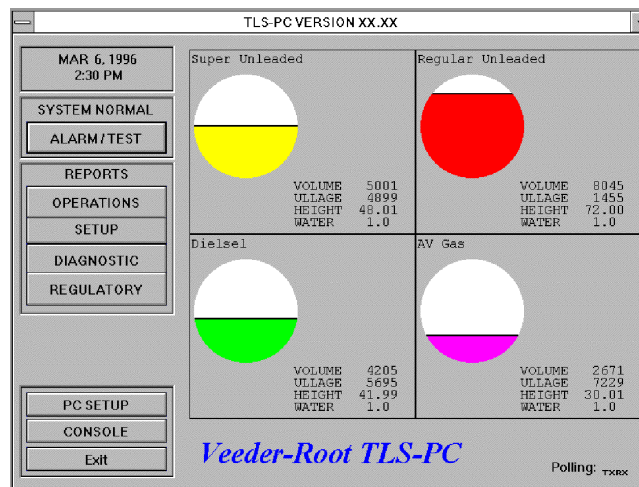
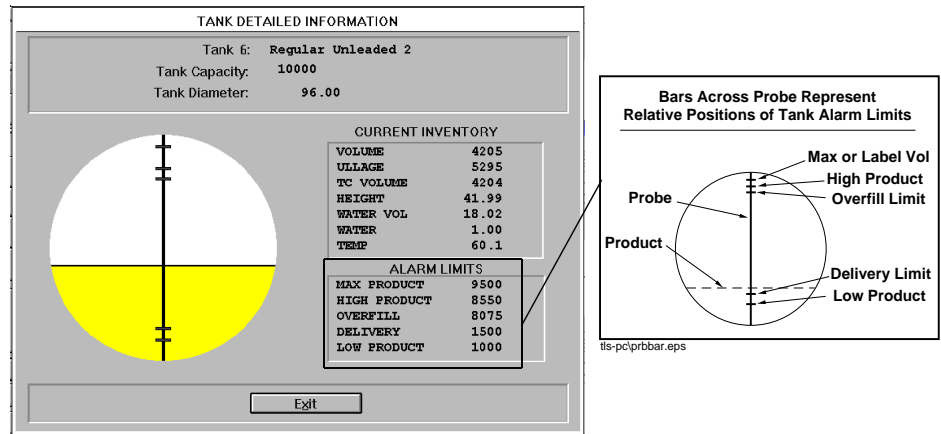

Figure 12. TLS-PC Main Screen
Figure 22. Tank Detailed Information Screen
5. If the LVP test fails, you will hear a beep until you click on **ALARM/TEST**. The word **ALARM** will continue to flash in the System Status section of Main Screen [Figure 12 on page 15].
Another method of monitoring this alarm is to click on the **OPERATIONS** button in the **REPORTS** section of the Main Screen (Figure 12 on page 15. For more detailed information see Figure 22 on page 23), then click on **SYSTEM STATUS** in the **REPORTS** scroll window in the top center of the **OPERATIONS REPORTS MENU** screen. Once you have the **SYSTEM STATUS** report on the screen, you will see the alarm message **LINE LEAK SHUTDOWN, GRS- LINE TEST FAIL** (If the alarm resets, this message is erased).
5. If the Reenable test fails, you will hear a beep until you click on **ALARM/TEST**. The word **ALARM** will continue to flash in the System Status section of Main Screen [Figure 12 on page 15].
Another method of monitoring this alarm is to click on the **OPERATIONS** button in the **REPORTS** section of the Main Screen (Figure 12 on page 15). For more detailed information see Figure 22 on page 23), then click on **SYSTEM STATUS** in the **REPORTS** scroll window in the top center of the **OPERATIONS REPORTS MENU** screen. Once you have the **SYSTEM STATUS** report on the screen, you will see the alarm message **PLLD (or WPLLD) SHUTDOWN ALARM, GROSS LINE FAIL** (If the alarm resets, this message is erased).
On the Main Screen, click on any tank. The Tank Detailed Information screen for that tank appears [Figure 22].